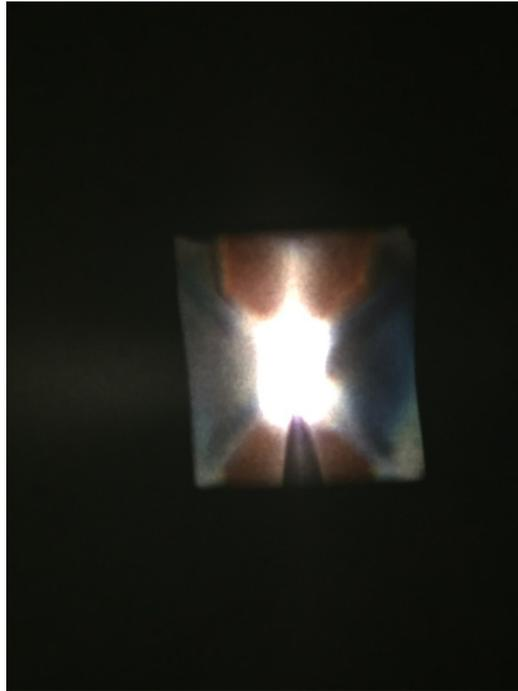

**Figure 68: The anode and cathode of the Xe lamp with visible arc**
7. Move the lever so that it rotates about the cylindrical condenser lens assembly until the Xenon arc lamp can be clearly seen on the backdrop placed in front of the TLS. Move the adjustment lever to obtain the sharpest image possible of the lamp's electrodes, which are referred to as the anode and cathode. This is usually achieved when the adjustment lever is as close to the lamp housing as possible. Both the anode and cathode of the lamp should be visible on the backdrop, as shown in Figure 68. This image is referred to as the "primary image".